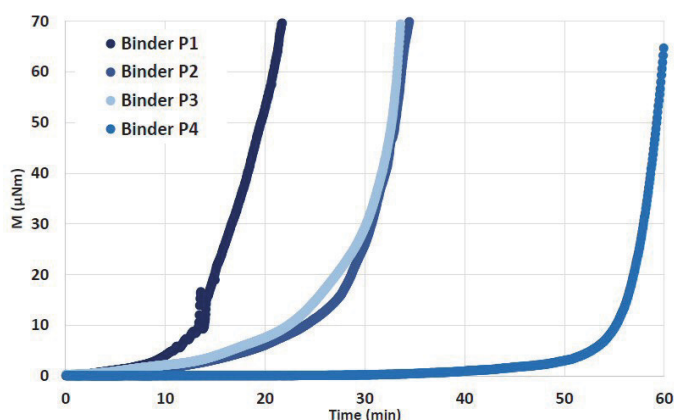

Figure 3. The influence of different types of binders on the same coating formulation. The open time varies between approx. 10 min and 55 min.
The drying of the coating is monitored via the torque necessary to move the pins through the coating at a constant low speed. A sharp change of slope of the increase of rheometer's torque (M) over time indicates the open time of the coating (Figure 3).